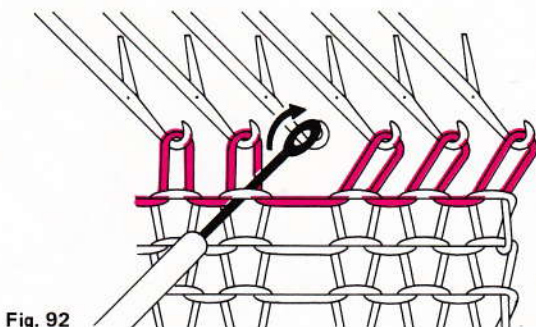

Fig. 92
- Using the 1-stitch transfer tool pick up the loop of the 4th stitch of previous row (fig. 92).